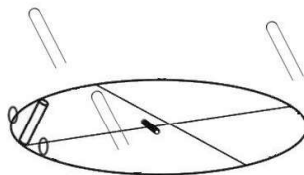

Fig.2
5. **VERY IMPORTANT:** Secure the installing points with plastic ties(E) and secure the base to the soft ground by fully inserting Ground stakes(F) into the ground. (see Fig.2).